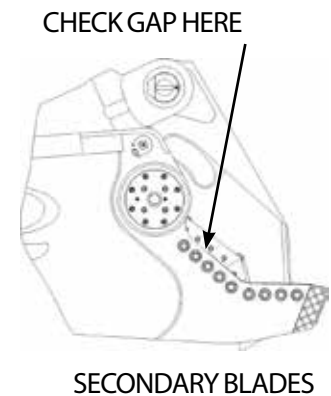

FIGURE 5-19
3. Close the shear further until the primary blades begin to bypass (see Figure 5-19). Again, check to see how many shims can be slipped between the blades (or use the feeler gauge). Record this gap also. If the blades have been rotated properly at the correct intervals, the blade gap should be even over the entire span of the blades. If the gap is not even, contact your LaBounty dealer.